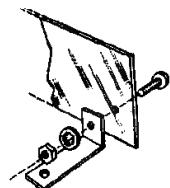

Figure 7
- ✓ On the slotted green plastic strip, mount two small L-brackets as shown in Figure 7.